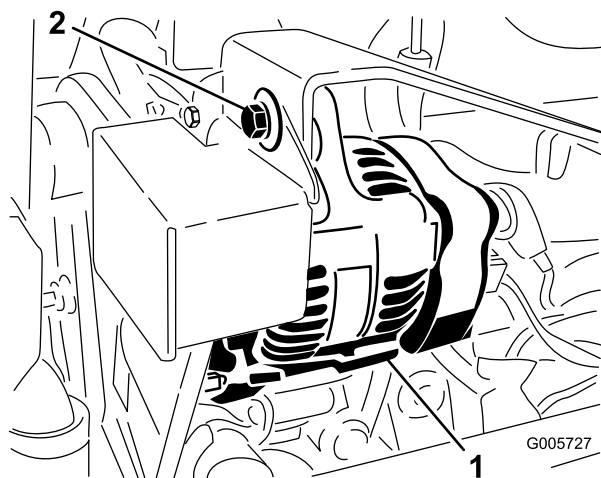

Figure 65
2. Proper tension will allow 3/8 inch (10 mm) deflection when a force of 10 lbs. is applied on the belt (Figure 65) midway between the pulleys.